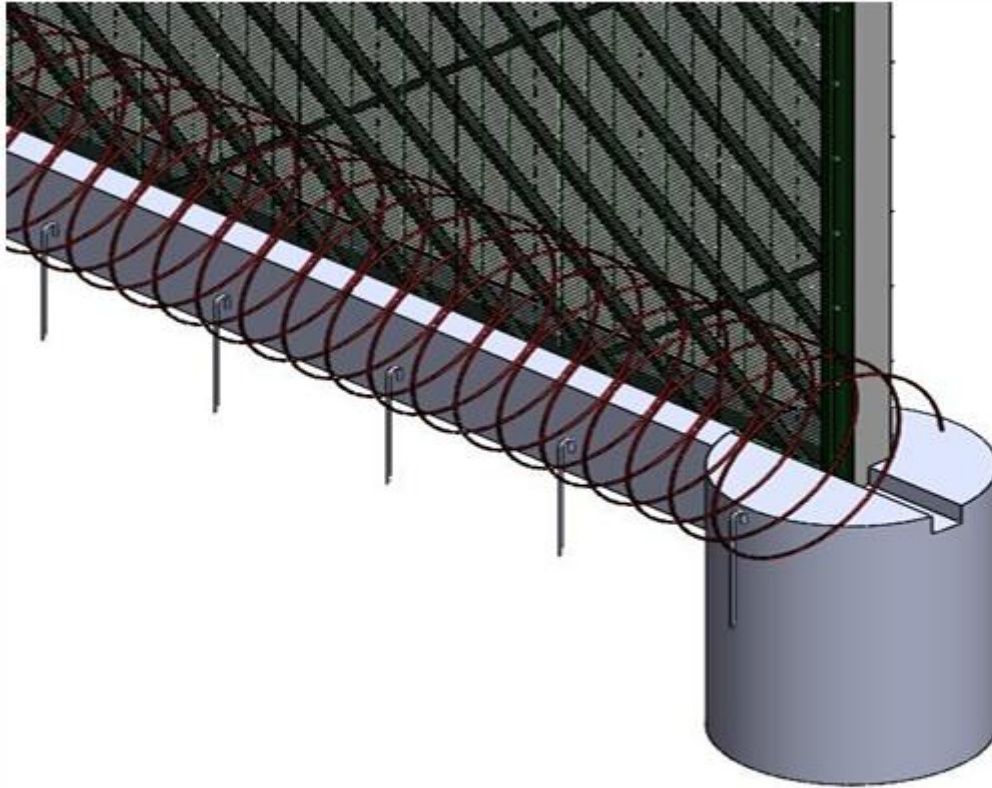

Fig. 12
- After that, with a layer of concertina hammered with 'J' type hook in the ground (soil) at every 500 mm C/C. As shown in fig.12